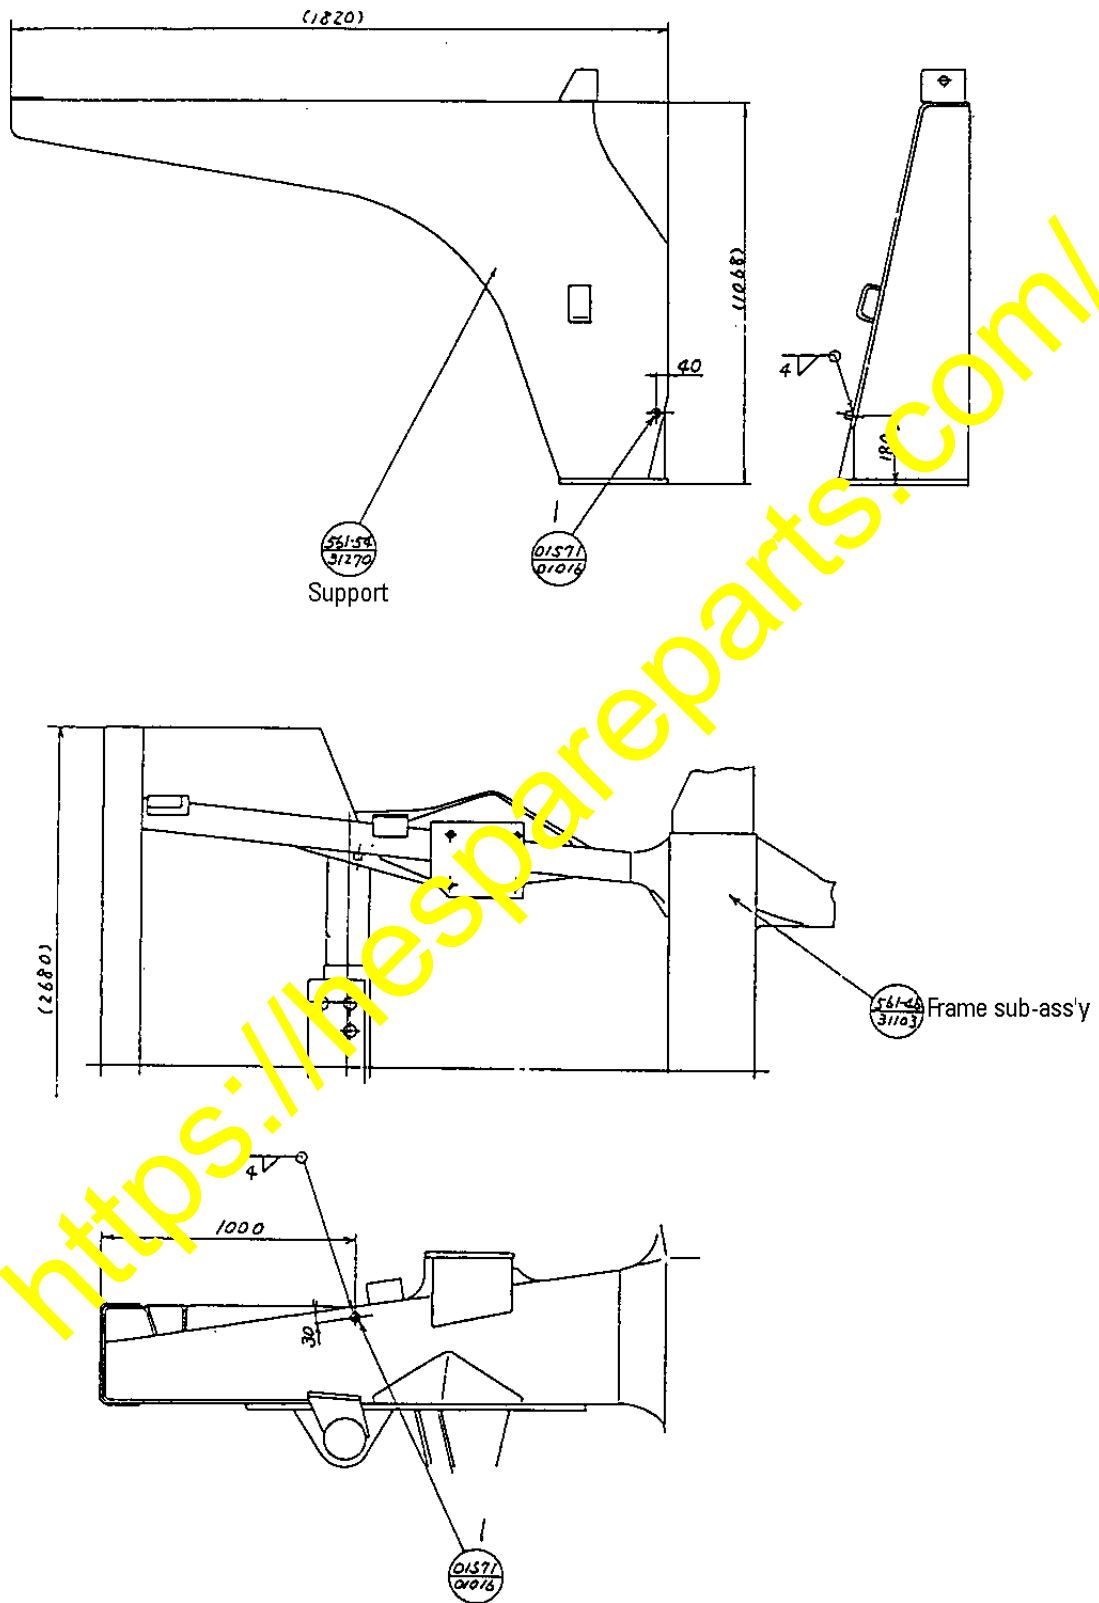

Fig. 5
- (1) Weld a SEAT (01571-01016) (1) to R.H. FRONT SUPPORT (561-54-31270) and another to FRAME (561-46-31103). (See Fig. 5)